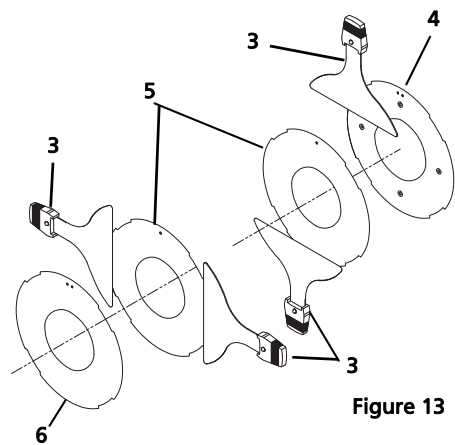

Figure 13
- 3: Assemble the divider plates and shutter blades as shown in Figure 13. For the shutter blade between the divider (5) and the bottom divider plate (4), pull the blade and plate assembly slightly forward to allow the handle to slip through the slot in the bottom casting, and then fully seat the blade assembly into the casting.